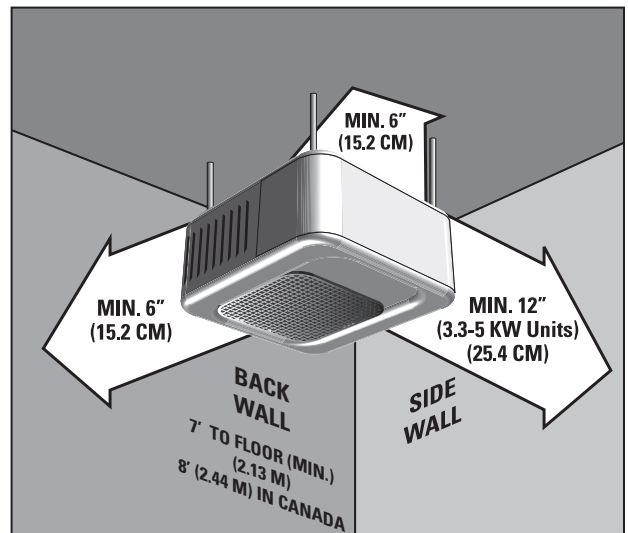

Figure 5 Ceiling Mount. Vertical Mounting clearances.
**Vertical Discharge** see Figure 5 for minimum clearances